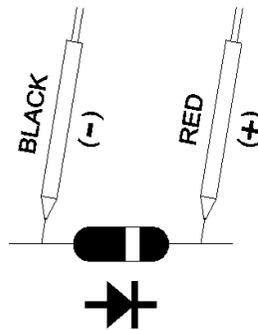

Fig.3
- b. When connected as shown in Fig. 3, a reverse check on the diode is made. If the diode under test is good, " - - - - " will be displayed. If the diode under test is defective, " 0.000 " or other numbers will be displayed. Proper diode testing should include both steps a. and b. above.